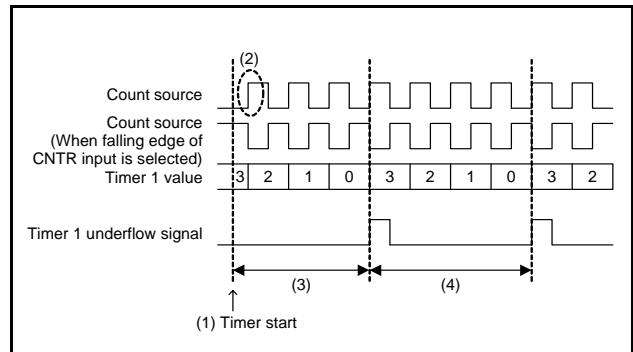

Fig 69. Timer count start timing and count time when operation starts (1)
Count starts from the first rising edge of the count source (2) in Figure 69 after prescaler and timer operations start (1) in Figure 69.
Time to first underflow (3) in Figure 69 is shorter (for up to 1 period of the count source) than time among next underflow (4) in Figure 69 by the timing to start the timer and count source operations after count starts.